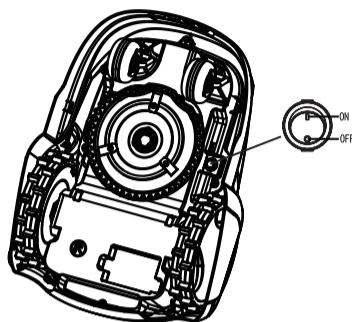

Fig. 4-1
1.Switch On/Off the Main Power (Fig.4-1)